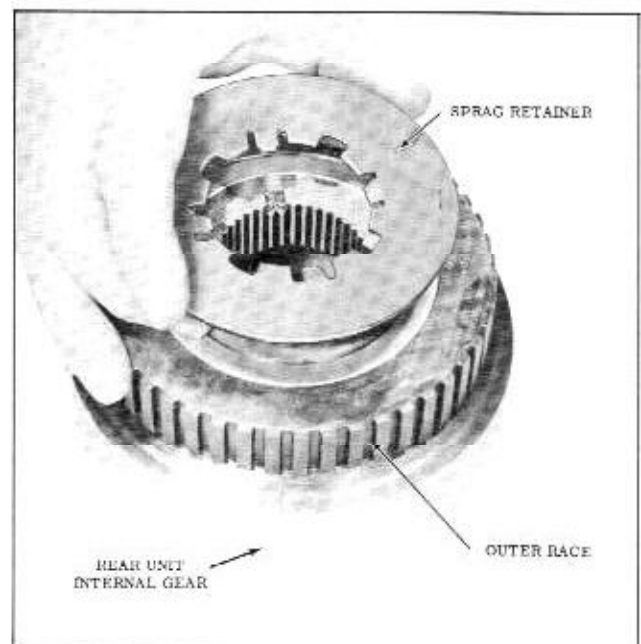

Fig. 3-91 Installing Sprag Retainer
6. Apply petrolatum on sprag retainer and install sprag retainer on internal gear aligning tangs with the internal gear slots. (Fig. 3-91)